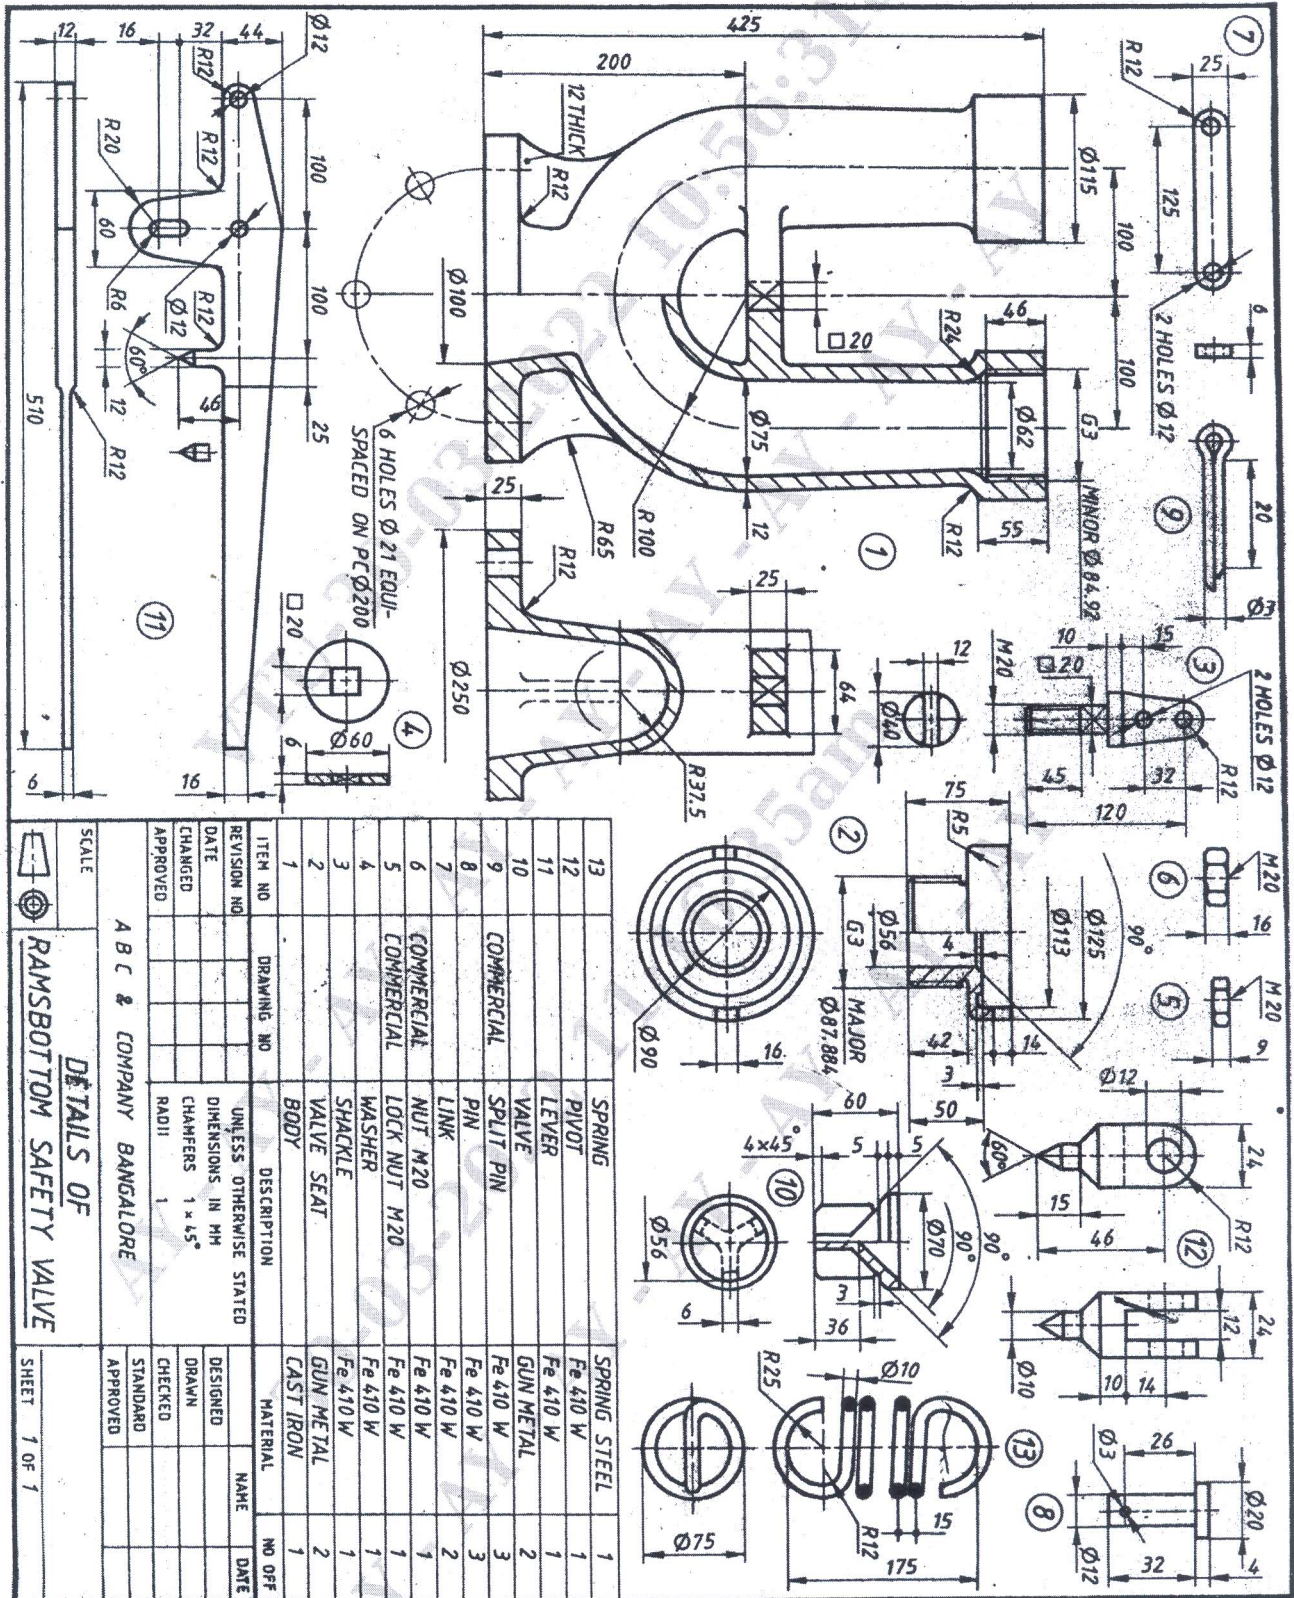

Figure 2 "RAMSBOTTOM SAFETY VALVE".
Q.No.6 Figure 2 shows the details of an "RAMSBOTTOM SAFETY VALVE". Assemble the parts and draw the following views. Dimension the drawings.